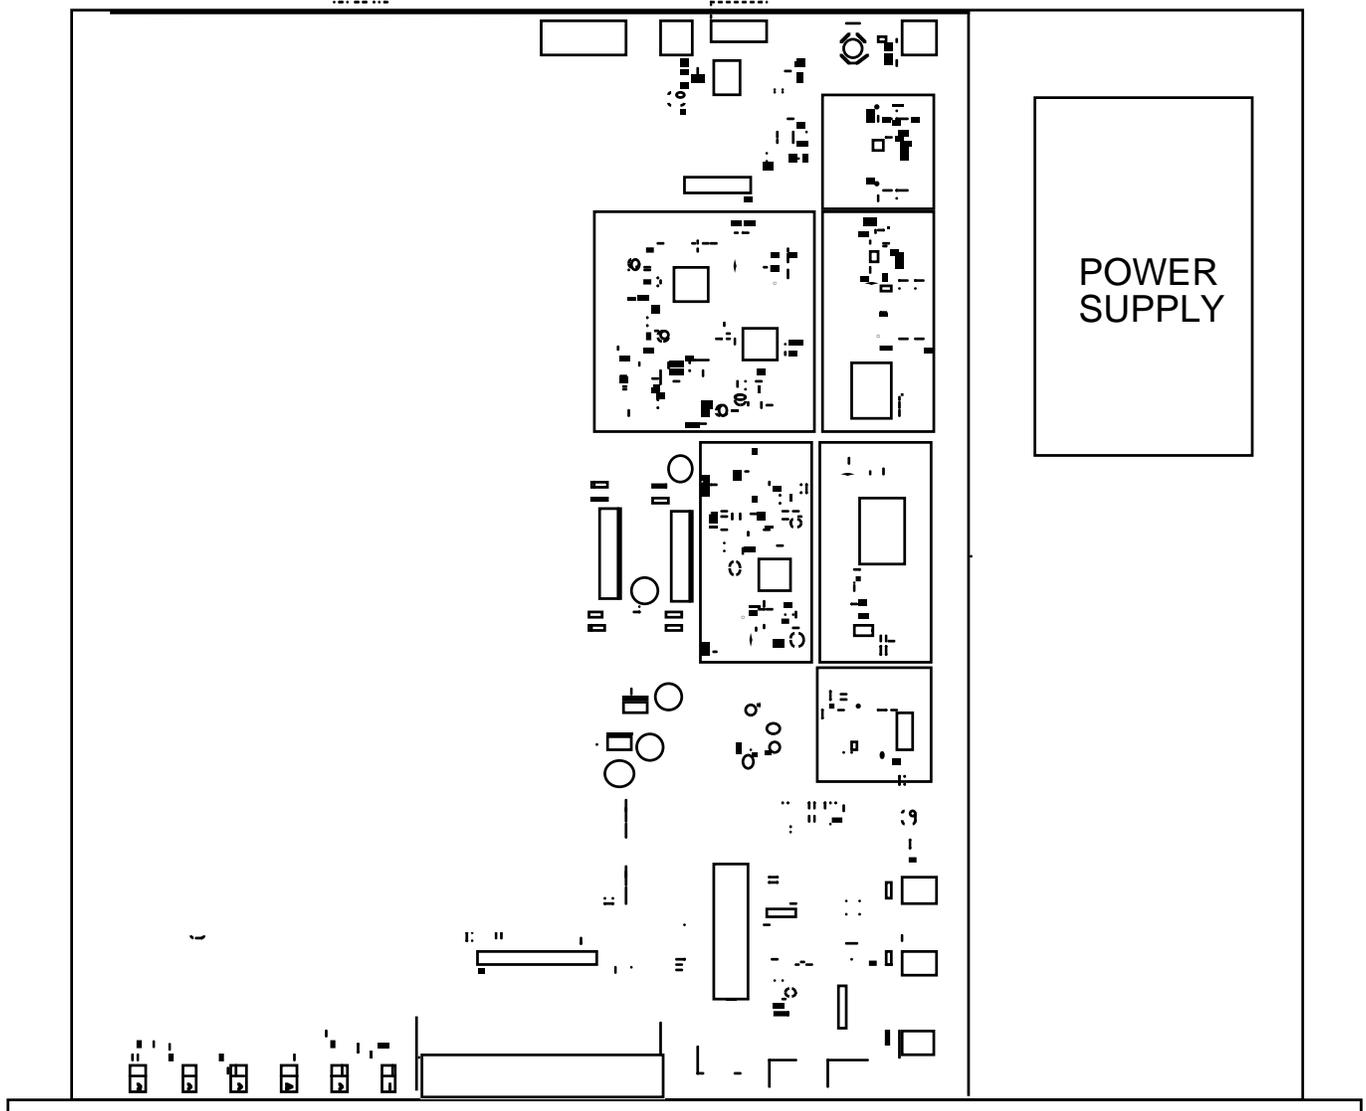

FIGURE 2.1 2016-03 Mechanical Assembly
2.1 Mechanical - The 2016-03 consists of one RF/Controller PCB housed in a 1 RU (1 3/4 inch high) by 16 inch deep chassis. A switching, ± 12 , +24, +5 VDC power supply provides power for the assemblies. The 2016-03 can be secured to a rack using the 4 holes on the front panel. Figure 2.1 shows how the 2016-03 is assembled.
7. Option -L, L18, L12 Only - To insert LNB +24, +18, +12 VDC on the RF center pin install 0.5A fast blo fuse in F1 and check that DS8 lights yellow (Figure 2.1).